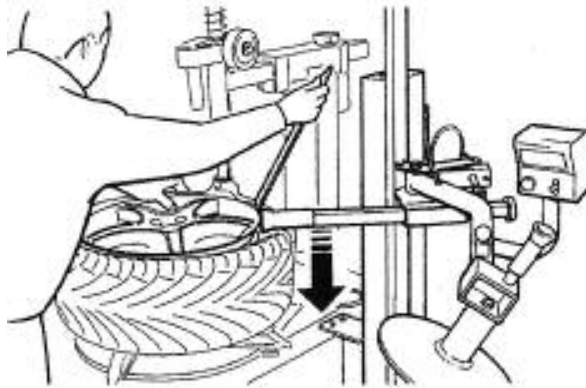

Figure 12
3. Remove the upper bead from the wheel flange by insert the bead-lifting tool as described in the standard tire and wheel dismounting section of the manual. On some low profile tires it may be necessary to use the supplementary roller to assist in this operation. See Figure 12